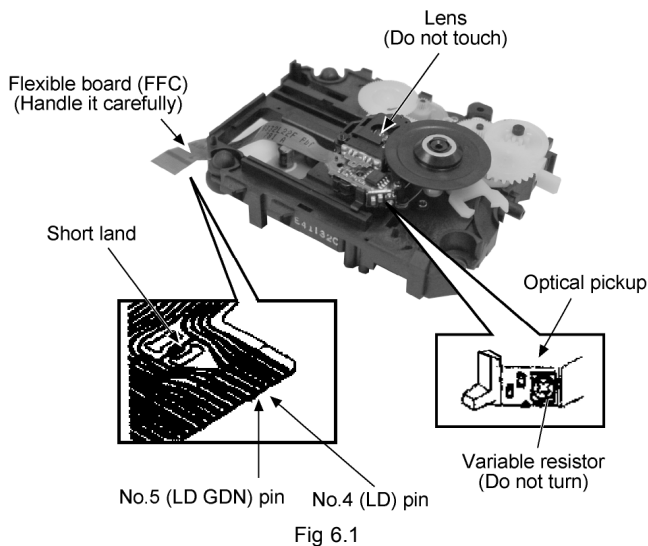

Fig 6.1
2. The short land between the No.4 (LD) and No.5 (GND) pins on the flexible board (FFC) is shorted with a solder build-up to prevent damage to the laser diode.
3. Take care not to apply excessive stress to the flexible board (FFC board) (Fig 6.1).